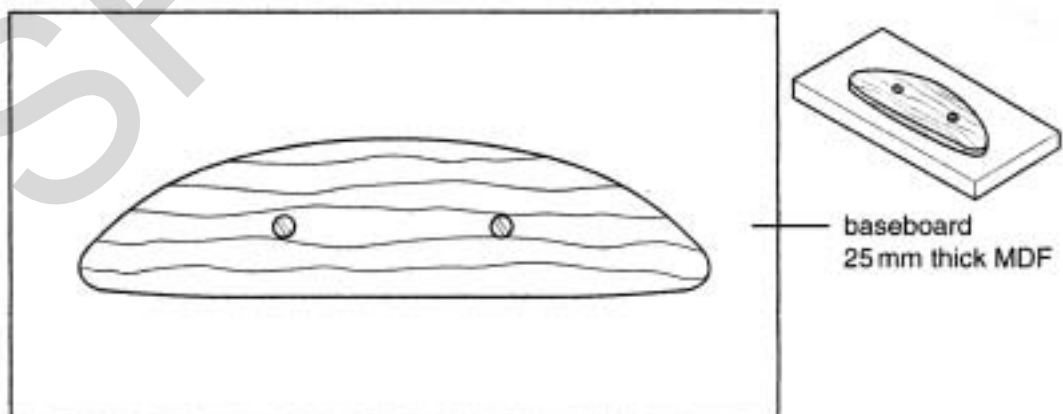

Fig.4
- (b) Fig. 4 shows a wooden former around which a length of mild steel rod could be bent to the shape of the end frame. The former is fixed to a baseboard.
Add sketches and notes to Fig. 4 to show how the mild steel could be held in place while it is bent to shape around the former.